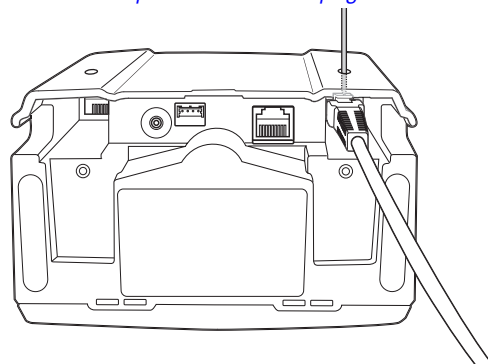

Figure 1-5. Unplugging the Cable Through the Cable Release Hole
1. Unplug the installed cable's modular connector by depressing the connector clip and gently pulling back. The two small holes on the back of the scanner case provide access to the connector clips. (See Figure 1-5.)